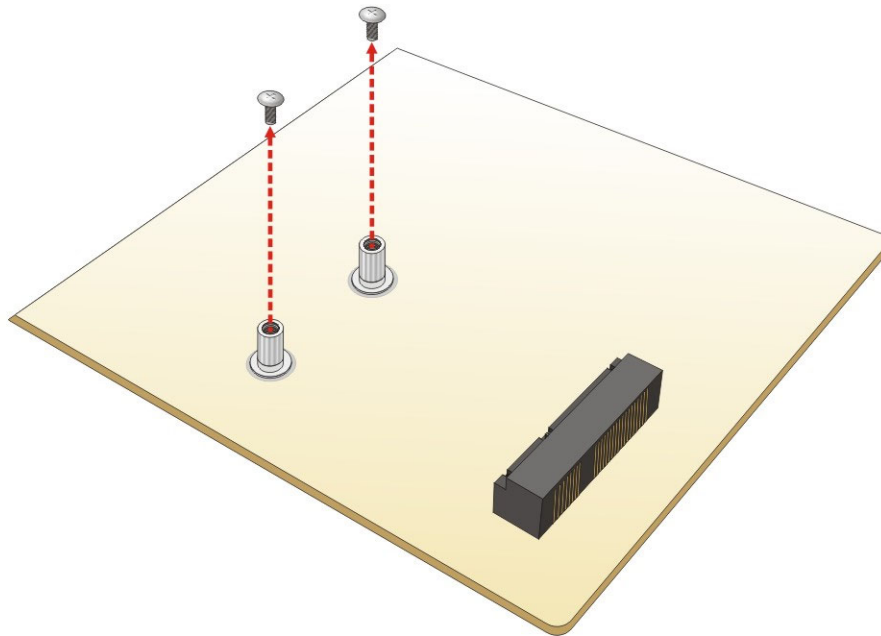

Figure 4-14: Removing the Retention Screws
Step 2: **Remove the retention screws.** Remove the retention screws as shown in **Figure 4-14**.